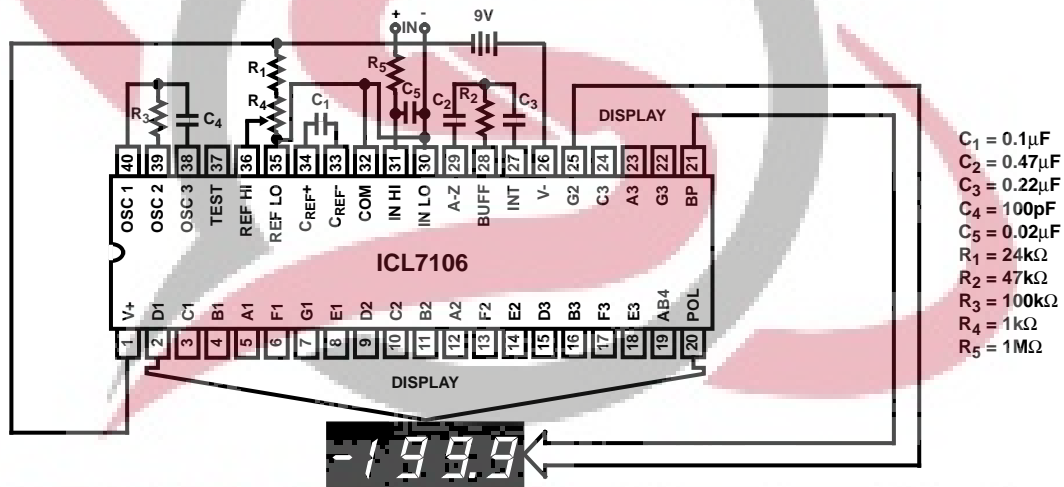
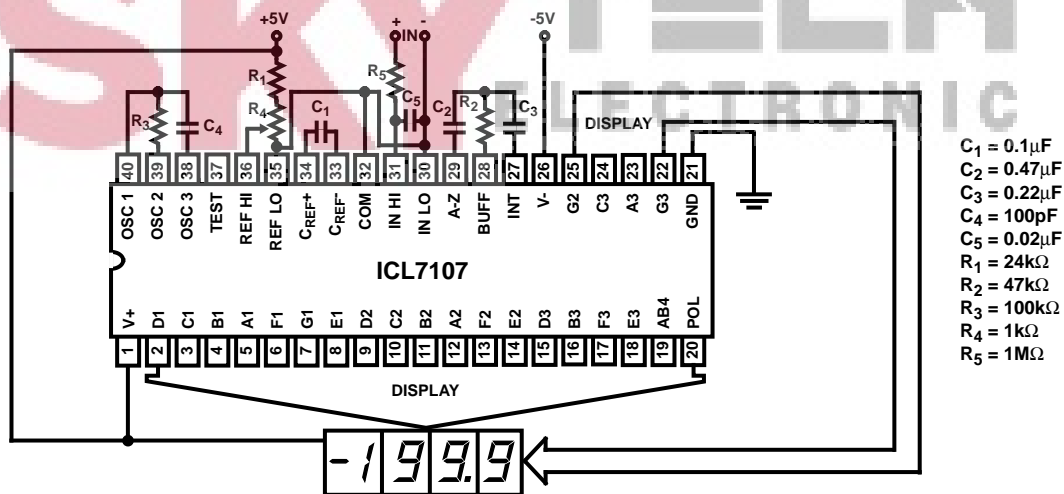

FIGURE 1. ICL7106 TEST CIRCUIT AND TYPICAL APPLICATION WITH LCD DISPLAY COMPONENTS SELECTED FOR 200mV FULL-SCALE
FIGURE 2. ICL7107 TEST CIRCUIT AND TYPICAL APPLICATION WITH LED DISPLAY COMPONENTS SELECTED FOR 200mV FULL-SCALE
- Unless otherwise noted, specifications apply to both the ICL7106 and ICL7107 at $T_A = +25^\circ\text{C}$, $f_{\text{CLOCK}} = 48\text{kHz}$. ICL7106 is tested in the circuit of Figure 1. ICL7107 is tested in the circuit of Figure 2.